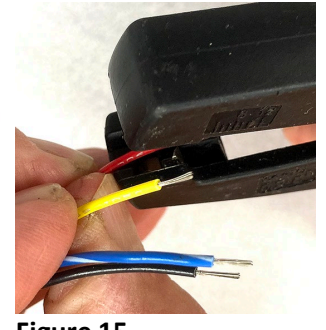

Figure 15
2. Pull back the black harness sheathing and strip each wire (see Figure 15).
2. Pull back the black harness sheathing and strip each wire (see Figure 15 above).